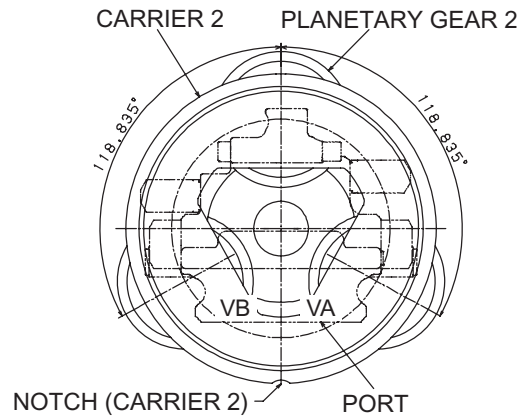

Fig. 34-117 Installing direction of carrier 2
- 1) Install three M10 eye bolts equally apart on carrier 2 (9).
Using the eye bolts, hang the carrier 2 assy by wire rope and place three planetary gears 2 (10) as shown on Fig. 34-117, put carrier 2 assy into ring gear (3) and mesh the splines to those of motor.
- 2) Insert and mesh sun gear 2 (15) on center.
Positioning carrier 2 assy as Fig. 34-117 is important to obtain better lubrication.